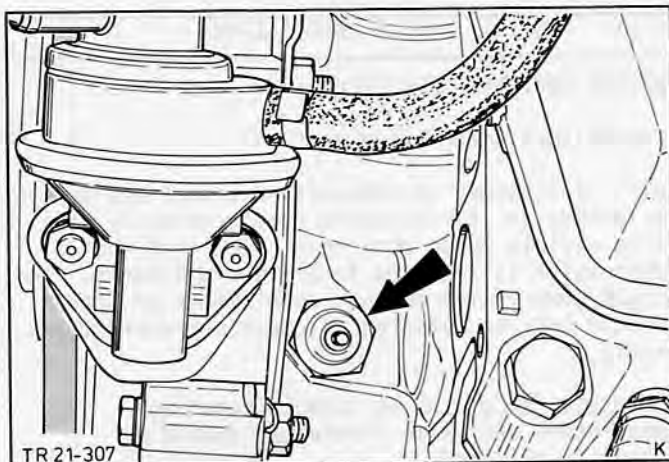

Fig.9. Oil pressure switch.
1. Detach connecting lead from oil pressure switch and unscrew oil pressure switch, Fig.9.